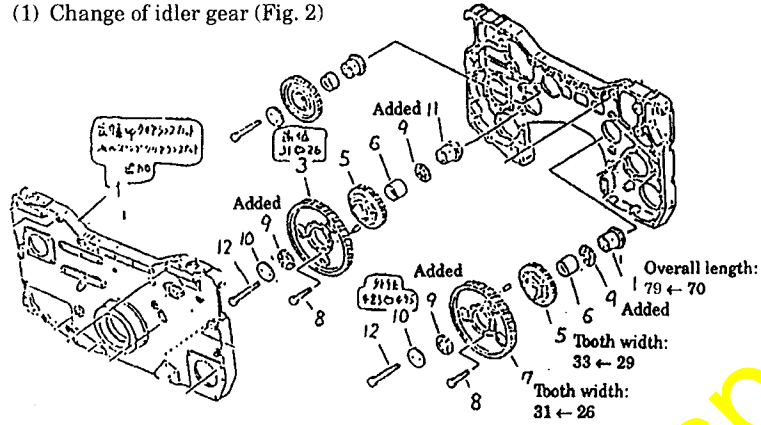

Fig. 2
① Change of engine with standard specifications (All SA12V140 engines, except ones with electronic governors on HD785-3)
(1) Change of idler gear (Fig. 2)